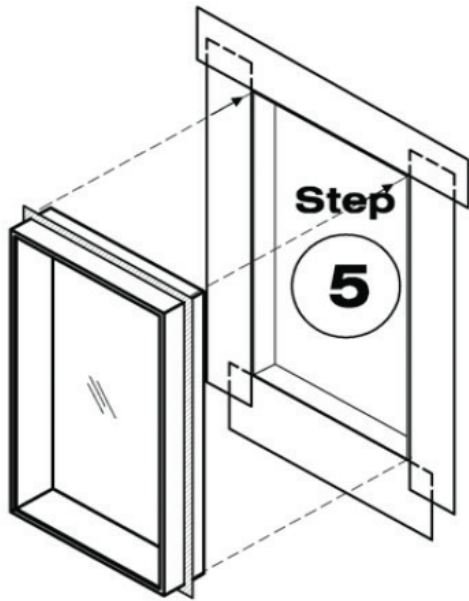

Figure 6 Install window into flashed opening.
Step 5. Install window in opening (see Figure 6).